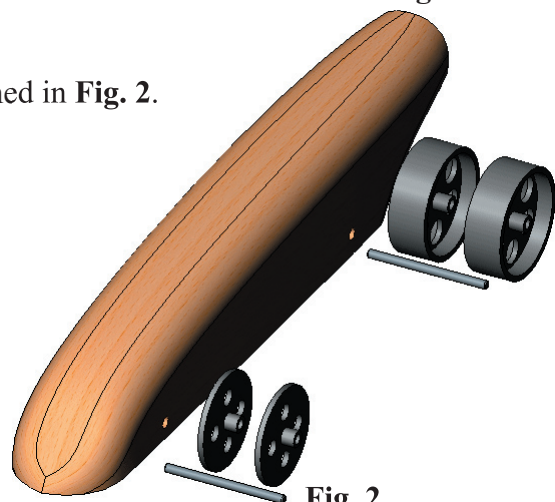

Fig. 2
Step 8. Click approximately where the axles are positioned in **Fig. 2**.
Step 9. Repeat and place two **GT-F front wheels** in the front of the body and **GT-R rear wheels** in the rear. Click OK  when done, **Fig. 2**.